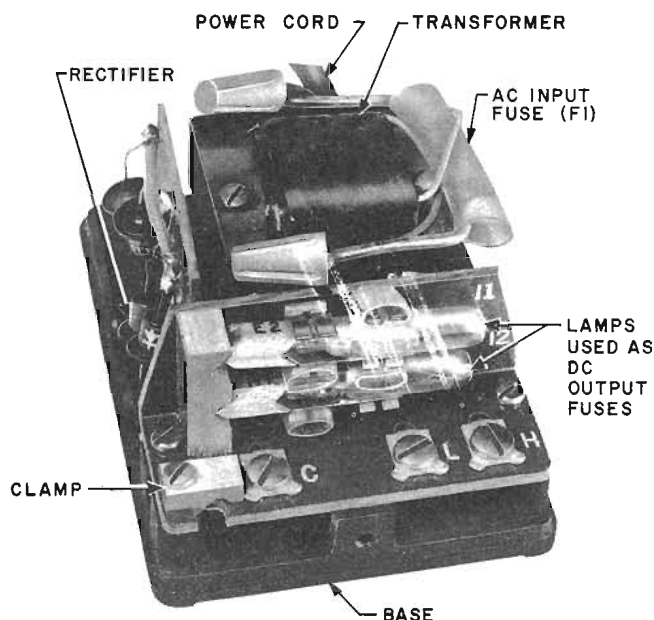

Fig. 2 — J87202A, List 1 Rectifier, Cover Removed
2.03 The rectifier (Fig. 2) provides:
4.02 Secure station wire under clamp on rectifier (Fig. 2).